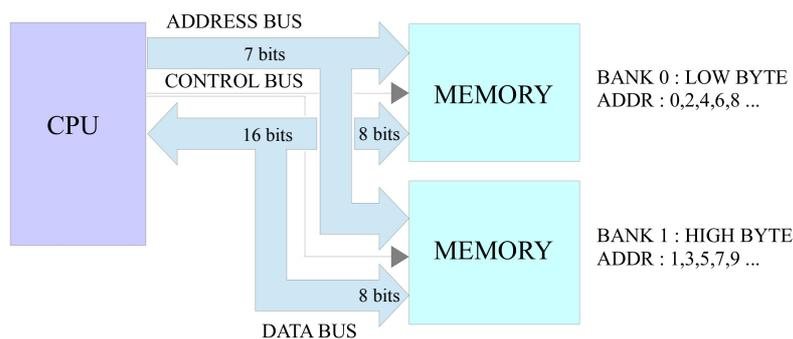

Figure 29 : 128 x 16bit memory architecture
- RAM 128 x 16bit : memory is now byte addressable, each memory location stores a 16bit values, however, the processor can also read/write to either the high or low byte. Therefore, the effective address bus is reduced to 7bits (128 x 16bit locations) as making the memory byte addressable means the processor still has to specify 256 x 8bit memory locations. Implementing this in hardware is a little tricky. The simplest solution is to have two 128 x 8bit memories connected in parallel, one storing the high byte, the other the low byte, as shown in figure 29. Address bus lines A7 - A1 are used as the "address bus", address line A0 is used to select which memory should be accessed when performing data byte read/writes e.g. A0=0: low byte, A0=1: high byte. With a little bit of glue logic this also simplifies byte writes as the unused memory device can simply be disabled i.e. when writing to the low byte the high byte must not be altered. Instruction fetches can be performed in a single transaction, but instructions are now aligned to even byte addresses e.g. at addresses 0,2,4,6,8 ...